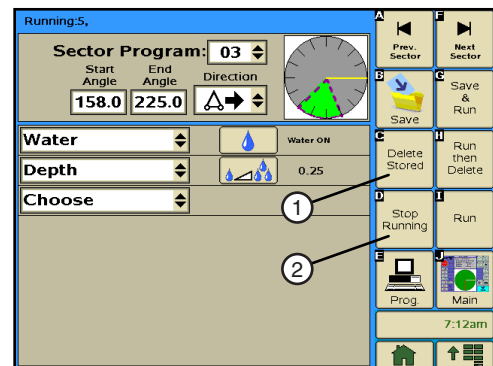

Figure 98-1 1. Delete Stored Button
1. Push **Prog.** and **Sector Prog.** to view the Sector Program screen. Refer to Figure 98-1.
1. Push **Prog** and **Sector Prog.** to view the Sector Program screen. Refer to Figure 98-1.